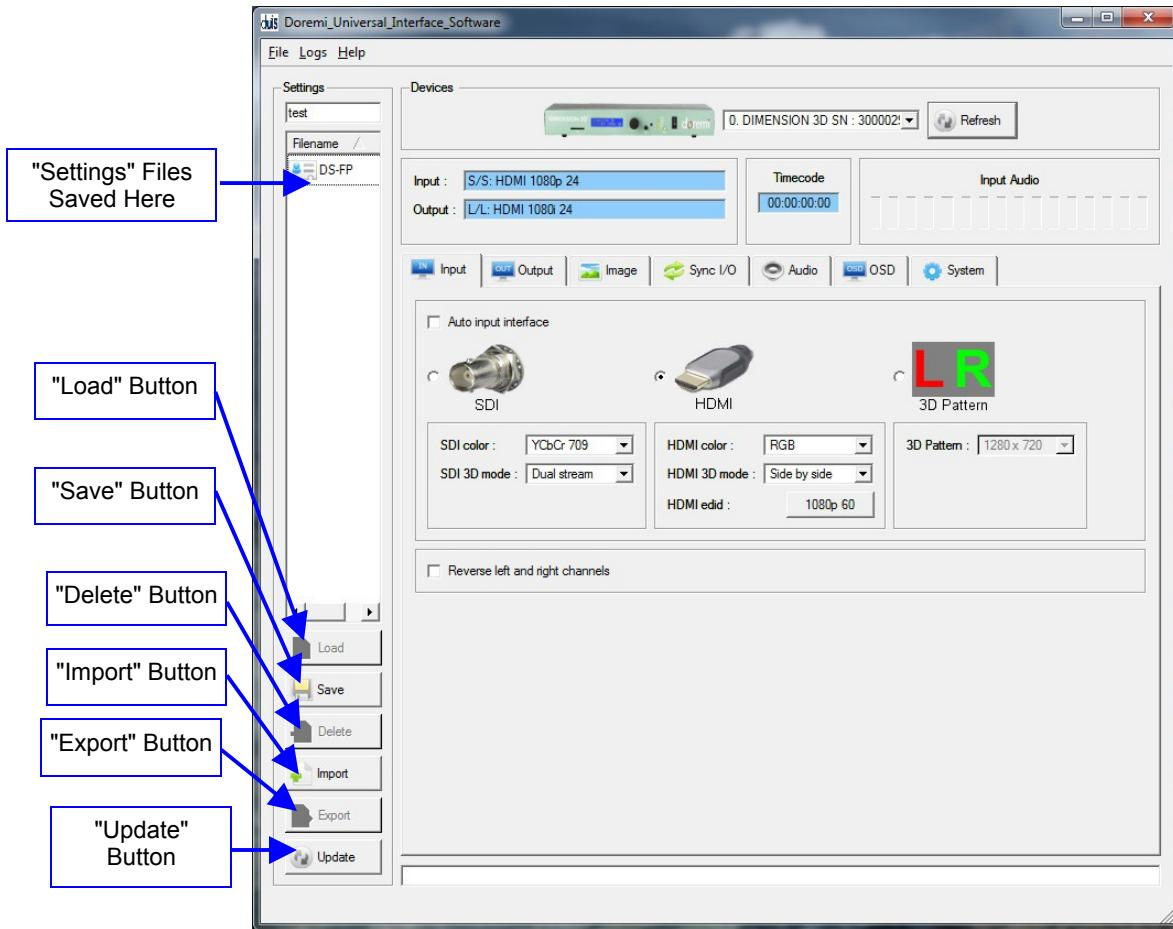

Figure 11: Doremi Universal Interface GUI – Settings Window
- To save the current “Doremi Universal Interface” settings into a file enter a settings file name in the top left corner field as shown below and then click “Save” (Figure 11).
- To export a saved “Settings” file to use for another Dimension-3D device, select it in the “Settings files” area and click on the “Export” button (Figure 11).
- The user will be asked to confirm where to export the file using a standard “Save as” dialog box (Figure 11).
- To import an existing “Settings” file from a ".ghx" file to the connected unit click on the “Import” button (Figure 11).
- To delete a settings file present in the “Settings files” area select it and click on the “Delete” button (Figure 11).
- Click on the “Update” button to update the “Settings” window to reflect the content of the folder where all the "Settings" files are stored (Figure 11).